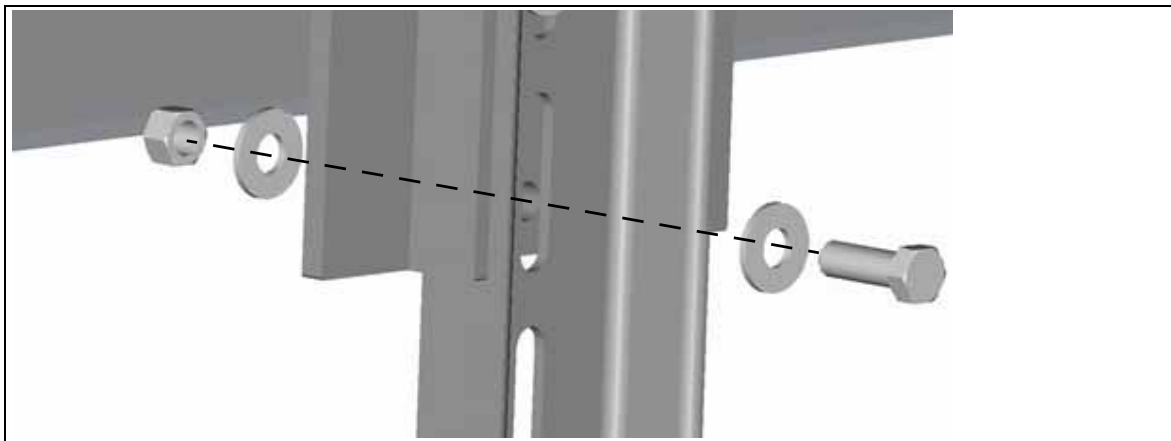

Fig. 10: Securing the installation frame
11. Fix the installation frame with screws (Fig. 10).